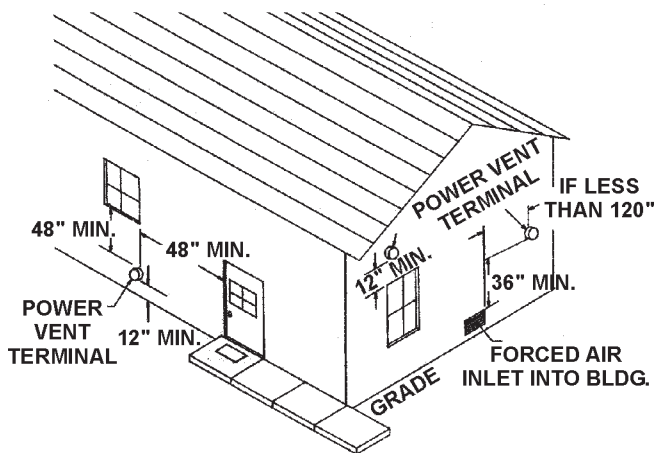

FIGURE 12.
- The Power Vent outlet terminal shall terminate at least 36" above any forced air inlet into the building located within 10 feet, see Figure 12.
- The Power Vent outlet terminal shall terminate at least 4 feet below, 4 feet horizontally from or 1 foot above any door, window or gravity air inlet into the building, see Figure 12.